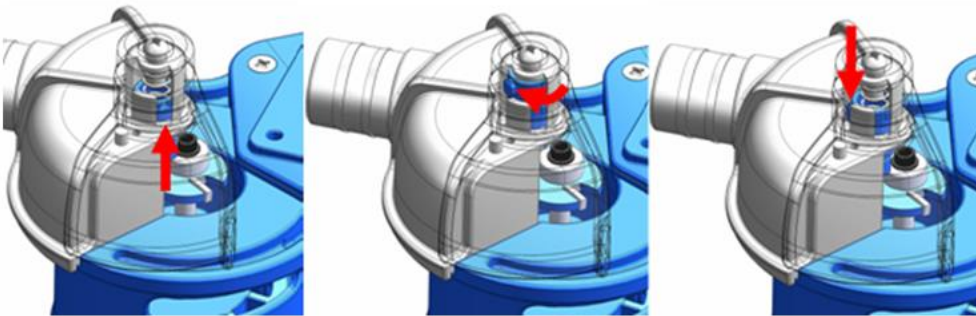

Fig. 8
- Press the pin upwards and rotate the pin as shown in Fig. 8 &9. Once the pin is pushed down and relocated, the surface on the different sides of the pin can stop the bearing from rotating with the cutter at the same time.